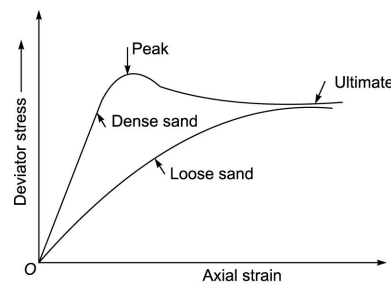

Fig. 12.8 Axial strain
* Shear strength of cohesionless soils: Typical stress-strain curves for loose sand and dense sand are as shown in Fig. 12.8.